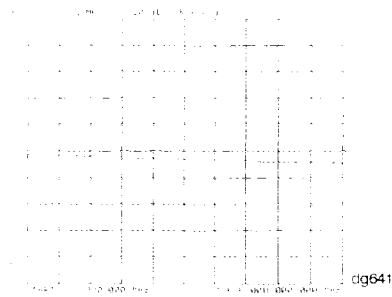
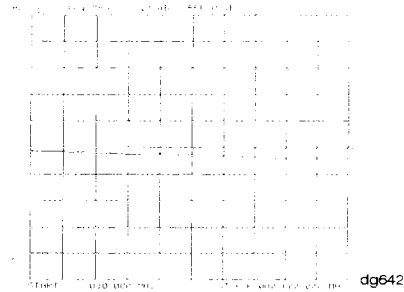

Figure 1-20. Forward Transmission Display
Figure 1-21. Reverse Transmission Display
- 9 Press CH2 to check the forward transmission mode for channel 2. Look at the measurement trace displayed on the analyzer. It should be similar to the trace shown in Figure 1-20.
The analyzer display shown in Figure 1-20 and Figure 1-21 are HP 8702D Option 011, Option 006 displays (30 kHz to 6 GHz span).
- 10** Press MEAS and then *Trans: E/E S12 REV* to check the reverse transmission mode for channel 2. The measurement trace should be similar to the trace shown in Figure 1-21.